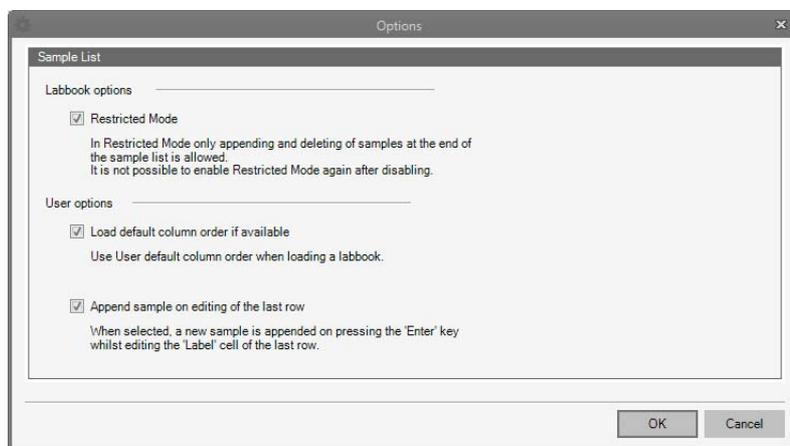

Figure 6-18. Options dialog of Sample List with enabled Restricted Mode
1. In the **Sample List** of the LabBook, click **Options** to show the Options dialog, see Figure 6-18.